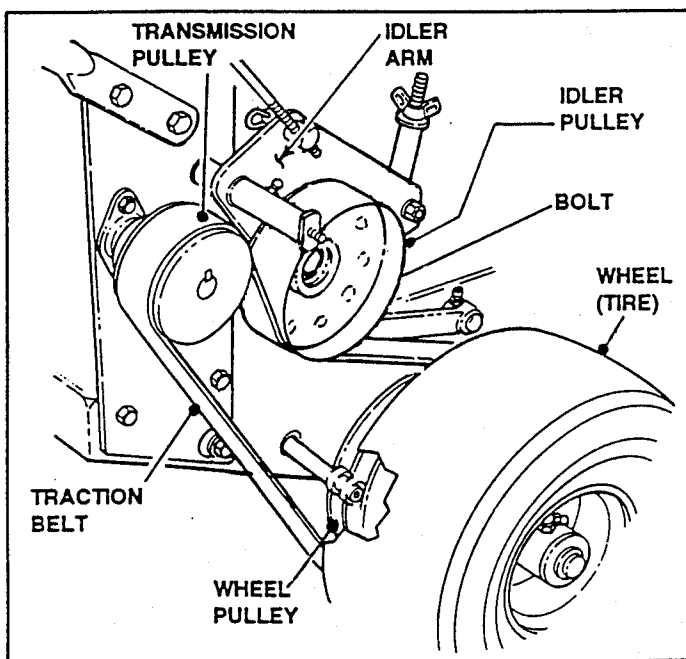

FIGURE 27
2. Adjust Scraper to proper degree. Retighten nut. See Figure 27.